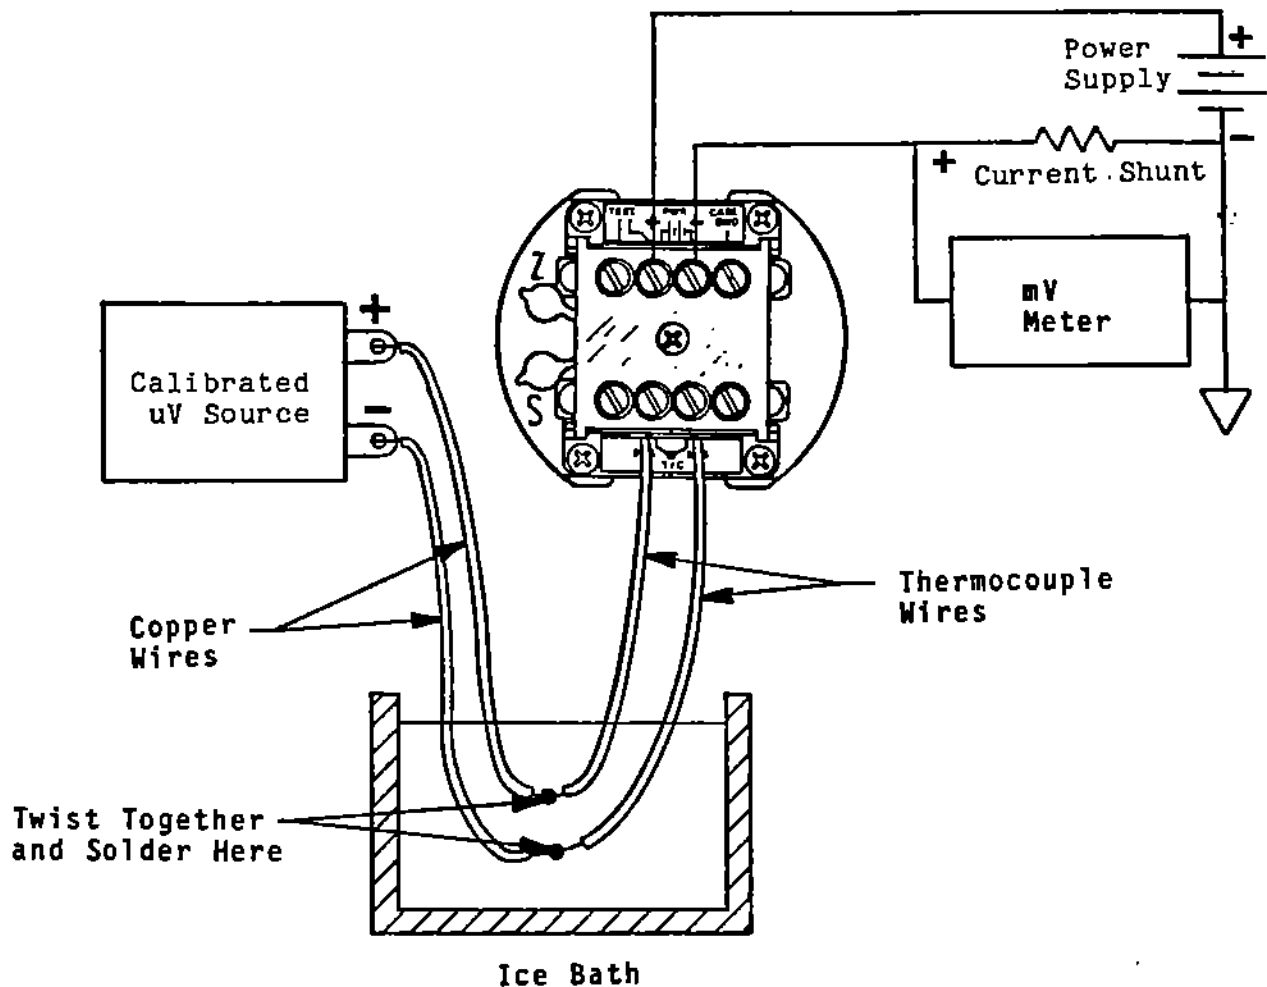

Figure 5-2 Calibration Setup Using Ice-Point Cell
5. Refer to Figure 5-2 and connect the transmitter to the power supply, microvolt source, current shunt, and millivoltmeter. Ensure that the copper wires from the microvolt source and the thermocouple wires from the 502A-T are soldered together and immersed in the ice bath. Better calibration stability is obtained if the electronic assembly is configured while in the case.